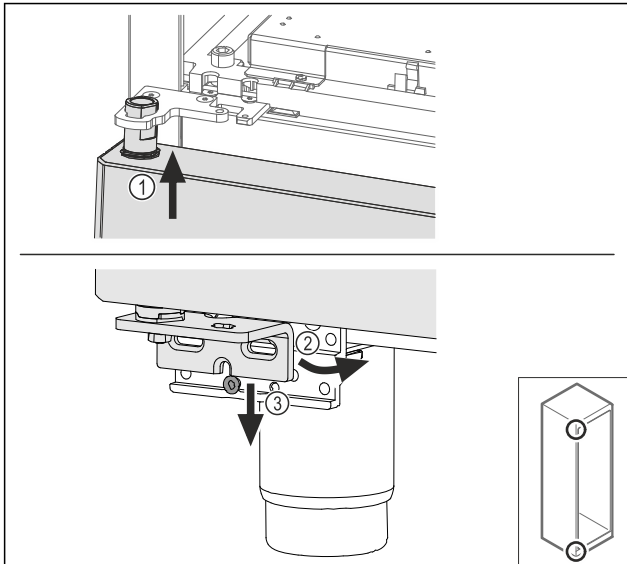

Fig. 64
- ▶ Insert the door slightly tilted at the top Fig. 64 (1), align the door straight Fig. 64 (2) and place it on the bottom of the swap bearing block screw Fig. 64 (3).